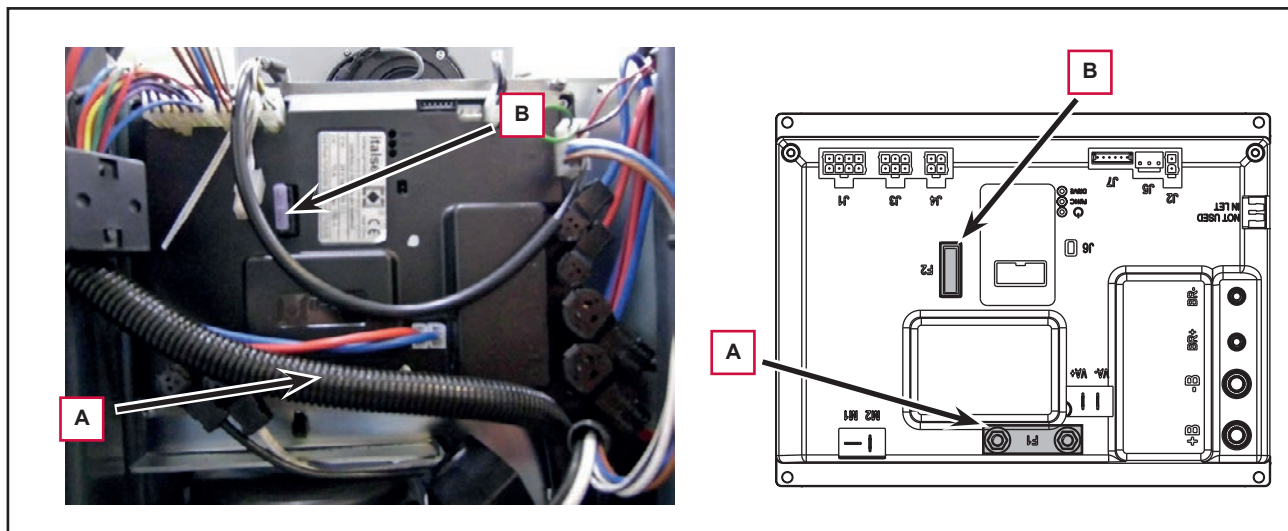

Figure 8
6. Check/replace the following fuses (Figure 8):
- (F1) 100A midi fuse - Function electronic board (A).
- (F2) 3A blade fuse - Signal circuits (B).